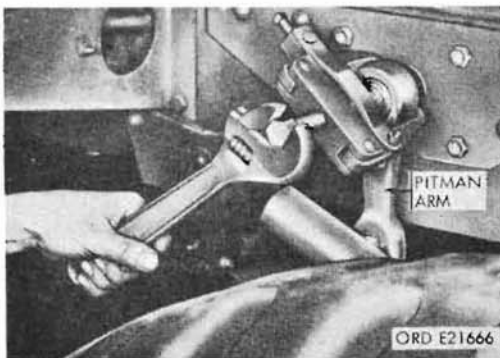

Figure 222. Removing pitman arm
d. Pitman Arm (Fig. 222). The pitman arm is steel forging, broached to fit the splined end of the pitman arm shaft. It is held on the shaft by a hex-nut.
a. Removal (Fig. 222).
- (1) Disconnect the drag link (par. 201) from the pitman arm.
- (2) Remove the nut and the washer holding the pitman arm in position. Pull the pitman arm from the shaft with puller.